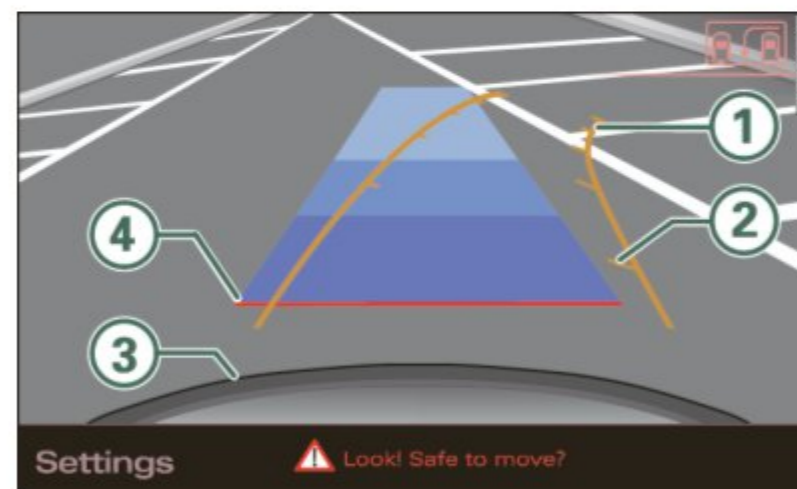

Fig. 165 MMI Display:
- Turn the steering wheel until the orange orientation lines ① appear in the parking spot ⇒ *page 160*, fig. 165. Use the markings ② to help you estimate the distance from an obstacle. Each marking corresponds to 3 ft (1 m). The blue area represents an extension of the vehicle's outline by approximately 16 ft (5 m) to the rear.
- While driving in reverse gear, adjust the steering wheel angle to fit the parking space with the aid of the orange orientation lines ⇒ ⚠. ③ marks the rear bumper. You should stop driving in reverse as soon as and no later than when the red orientation line ④ abuts an object ⇒ ⚠!